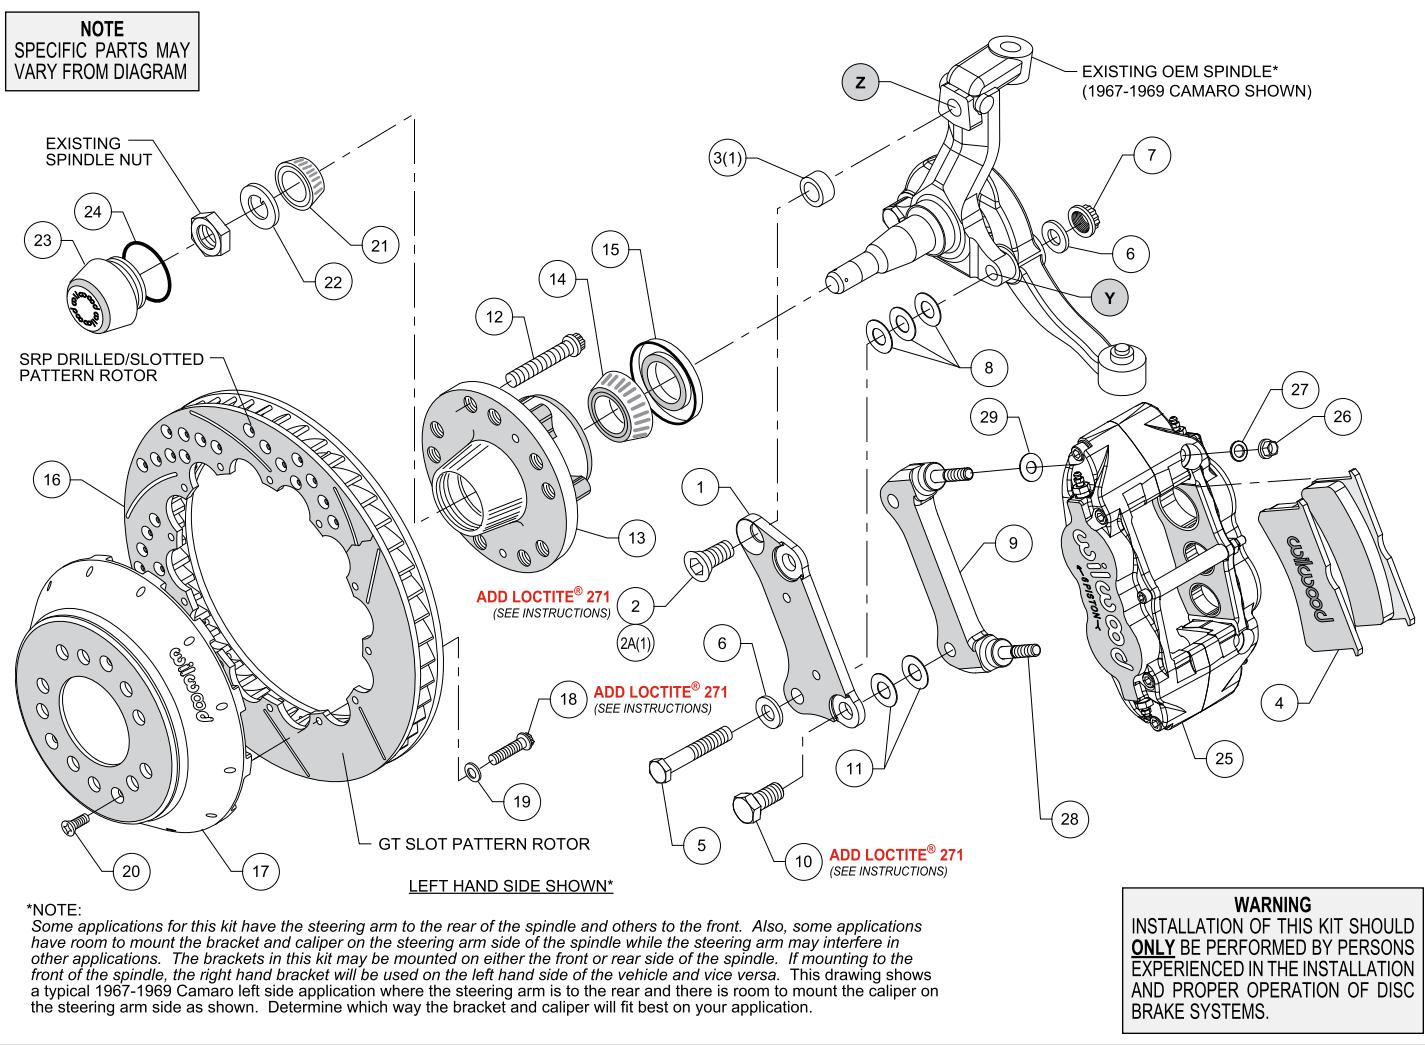
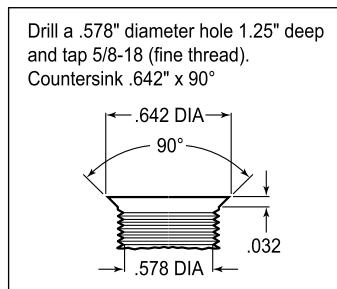
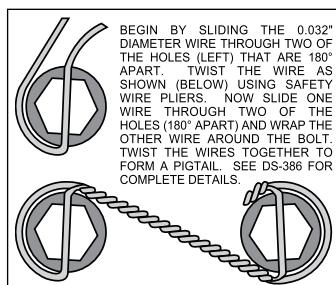

Figure 1. Typical Installation Configuration
Figure 3. Drill and Tap Detail
Figure 4. Safety Wire Diagram
NOTE: Numbers in parenthesis refer to the parts list and Figure 1 on the preceding pages.
NOTE: Some applications for this kit have the steering arm to the rear of the spindle and others to the front. Also, some applications have room to mount the bracket and caliper on the steering arm side of the spindle while the steering arm may interfere in other applications. The brackets in this kit may be mounted on either the front or rear side of the spindle. If mounting to the front of the spindle, the right hand bracket will be used on the left hand side of the vehicle and vice versa. Figure 1 shows a typical 1967-1969 Camaro left side application where the steering arm is to the rear and there is room to mount the caliper on the steering arm side as shown. Determine which way the bracket and caliper will fit best on your application.
NOTE: Some spindles in this year range may require the following modifications (reference Figure 1 and Figure 3): Top anchor pin hole (Z) must be drilled and tapped to the dimensions as outlined in Figure 3. The lower bolt hole (Y) in the spindle used to mount the new caliper bracket, and the mating steering arm hole, must be enlarged to .50" by drilling. It is recommended these modifications be performed by a qualified machinist.
Orient the rotor (16) and the hat (17) as shown in Figure 1 and Photo 3. Attach rotor to hat using bolts (18) and washers (19). Using an alternating sequence, apply red Loctite® 271 to the threads, and torque to 155 in-lbs. For an added measure of security, the bolts may be safety wired using standard 0.032 inch diameter stainless steel safety wire as shown in Figure 4. Please refer to Wilwood's data sheet DS-386 (available at www.wilwood.com/Pdf/DataSheets/ds386.pdf) for complete safety wire installation instructions.
• **Disc Brake Spindle Application Only:** Follow the instructions below, but instead use bolt (2A), and spacer (3) in the upper bolt hole location, Figure 1.
• Orient the flat bracket (1) as shown in Figure 1 and Photo 4, and install using bottom bolt (5), washers (6), and nut (7), Figure 1. Initially place three .032" thick shims (8) between the bracket and spindle. Install the upper bolt (2 or 2A). Temporarily tighten bolts. **NOTE:** The bracket must fit squarely against the mounting surfaces on the spindle. Inspect for interference from casting irregularities, machining ridges, burrs, etc. Temporarily install the new hub, hat and rotor assembly. Check that the bracket is aligned parallel to the rotor, Photo 5. If not, adjust by adding or subtracting shims (8) on the lower bolt between the bracket and spindle, Figure 1. Once the bracket alignment is correct, remove the upper bolt (2 or 2A), apply red *Loctite®* 271 to the bolt threads, and torque to 120 ft-lb. Torque the lower lock nut to 65 ft-lb.
• The radial mount caliper bracket (9) should initially be installed with clean, dry threads on the mounting bolts. Orient the bracket as shown in Figure 1 and Photo 6, and install using bolts (10). Initially place two .029 thick shims (11) on each bolt between the two brackets, Figure 1. Temporarily tighten the mounting bolts. Later, after the caliper alignment has been checked, the mount bolts will be secured using red *Loctite®* 271.
• Pack the small outer bearing cone (21) with high temperature disc brake bearing grease and install into hub (13). Final install the hub assembly onto the spindle. Secure using spindle washer (22) and OEM spindle nut, Photo 7. Adjust bearings per OEM specifications. Install saved OEM nut lock (if any) and a new cotter pin (not included).
• Screw dust cap (23) into hub (13). Friction created by the o-ring (24) on the dust cap keeps it from unscrewing. **NOTE:** The O.D. of the existing OEM spindle washer may be larger than the I.D. of the dust cap not allowing it to seat against the hub face. Therefore, use the spindle washer (22) supplied with the kit instead of the OEM washer.
• Final install the rotor (16 and 17) assembly onto the hub (13), taking care to align the small countersunk holes in the hat with the small threaded holes in the hub. **NOTE:** The hat must fit flush against the hub face or excessive rotor run out may result. Install three flat head screws (20) through the small holes in the hat (17), Photo 8, and torque to 85 in-lb.
• **NOTE:** This kit contains distinct right and left hand calipers that must be mounted in a specific direction, as described below. Initially place one .035" thick shim (29) on each stud (28) between the caliper and the bracket, as shown in Figure 1 and Photo 9. Mount the caliper (25) onto the bracket (9) using lock nuts (26) and washers (27), Figure 1. Ensure that the caliper is mounted so the largest pistons are at the rotor exit end of the caliper, in relation to the direction of rotor rotation. Temporarily tighten the lock nuts. The rotor should be centered in the caliper, Photo 10. If not, adjust by adding or subtracting shims (11) between the flat bracket (1) and the caliper bracket (9). Always use the same amount of shims on each of the two mounting bolts. Once the caliper alignment is correct, remove the bracket mounting bolts one at a time, apply red *Loctite®* 271 to the threads, and torque to 77 ft-lb.